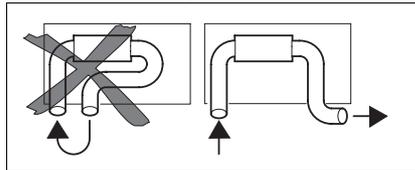

Fig. 7: Heating air inlet and heating air outlet
- "closed circuit" of air between heater air inlet and heater air outlet (fig. 7)